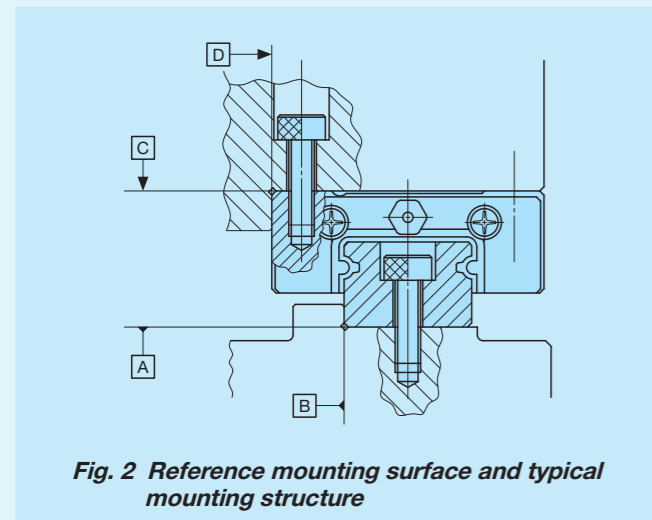

Fig. 2 Reference mounting surface and typical mounting structure
When mounting the ML(F) series and LWL(F) series, properly align the reference mounting surfaces B and D (D1 or D2) of the track rail and slide unit with the reference mounting surface of the table and bed and fix them. (See Fig. 2)